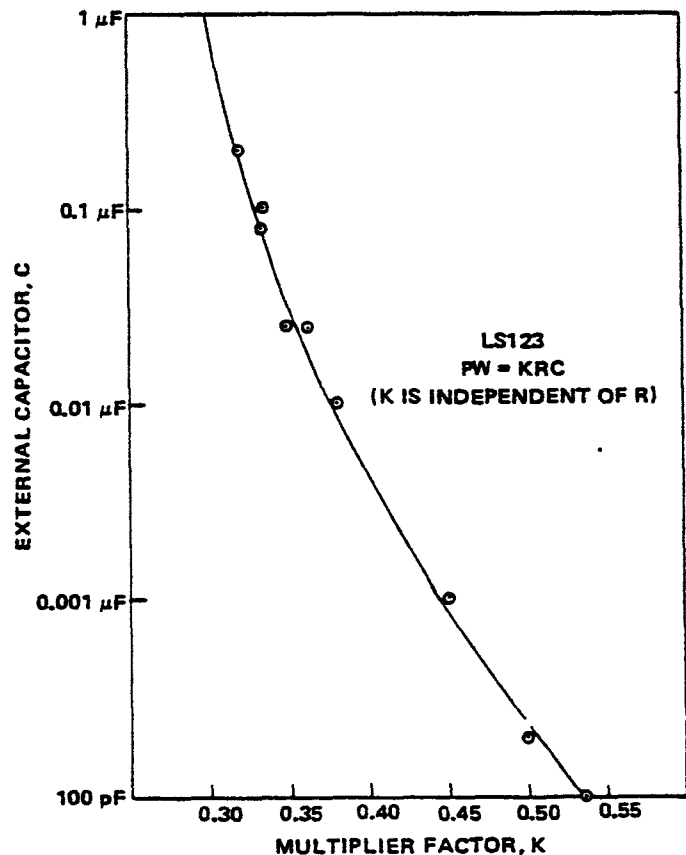

FIGURE 4. Multiplier Factor (K) Versus External Capacitor (C_{ext})
*SEE FIGURE 4 FOR K.
*See Figure 4 for values of K.